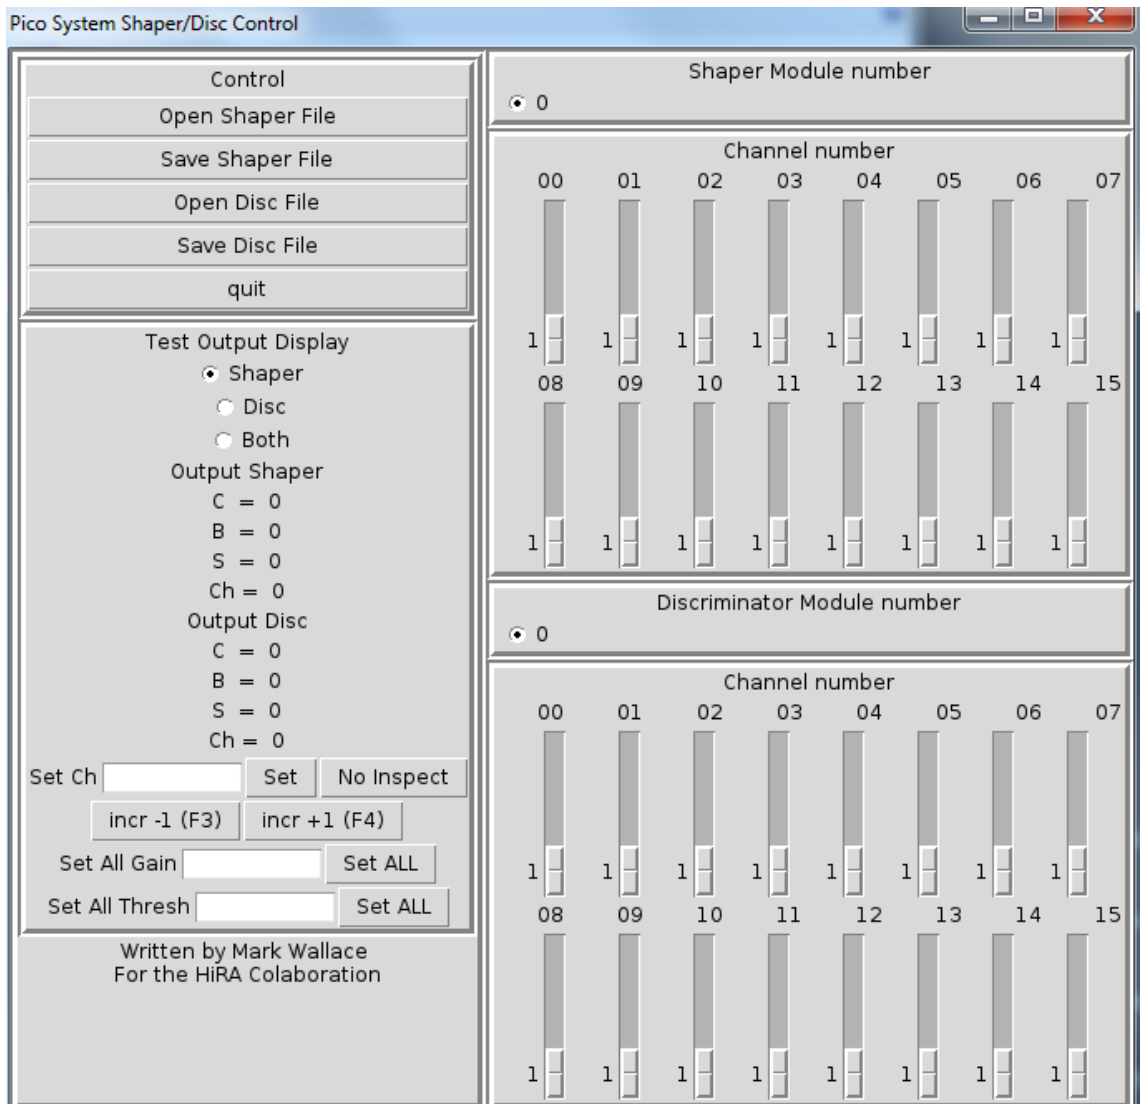

Figure 4: Csl control window.
2. A GUI appears as displayed in Fig. 4,